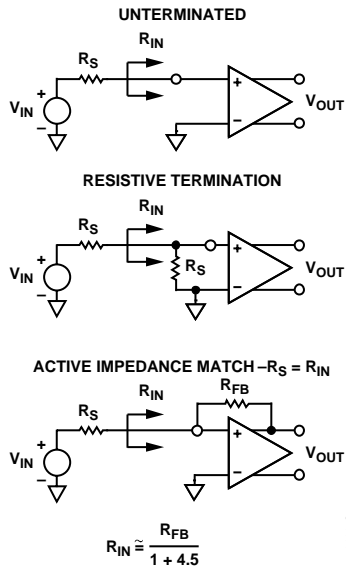
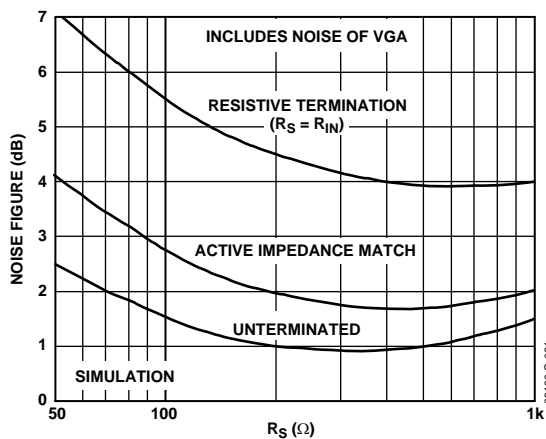
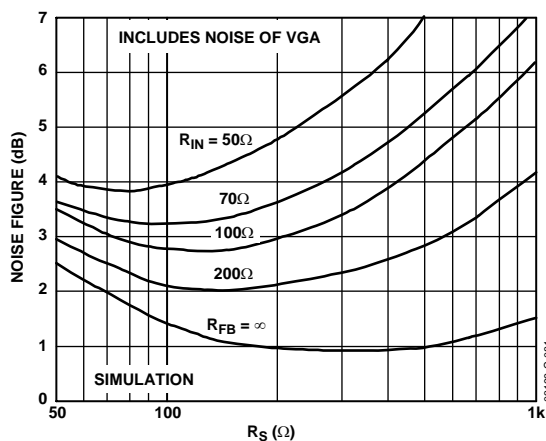

Figure 63. Input Configurations
Figure 64. Noise Figure vs. R_S for Resistive, Active Matched, and Unterminted Inputs
Figure 65. Noise Figure vs. R_S for Various Fixed Values of R_{IN} , Actively Matched
The input-referred voltage noise sets an important limit on system performance. The short-circuit input voltage noise of the LNA is 0.74 nV/ $\sqrt{\text{Hz}}$ or 0.82 nV/ $\sqrt{\text{Hz}}$ (at maximum gain), including the VGA noise. The open-circuit current noise is 2.5 pA/ $\sqrt{\text{Hz}}$. These measurements, taken without a feedback resistor, provide the basis for calculating the input noise and noise figure performance of the configurations in Figure 63. Figure 64 and Figure 65 are simulations extracted from these results, and the 4.1 dB NF measurement with the input actively matched to a 50 Ω source. Unterminated ($R_{FB} = \infty$) operation exhibits the lowest equivalent input noise and noise figure. Figure 64 shows the noise figure vs. source resistance, rising at low R_s , where the LNA voltage noise is large compared to the source noise, and again at high R_s due to current noise. The VGA's input-referred voltage noise of 2.7 nV/ $\sqrt{\text{Hz}}$ is included in all of the curves.
The primary purpose of input impedance matching is to improve the system transient response. With resistive termination, the input noise increases due to the thermal noise of the matching resistor and the increased contribution of the LNA's input voltage noise generator. With active impedance matching, however, the contributions of both are smaller than they would be for resistive termination by a factor of $1/(1 + LNA\ Gain)$. Figure 64 shows their relative noise figure (NF) performance. In this graph, the input impedance was swept with R_S to preserve the match at each point. The noise figures for a source impedance of $50\ \Omega$ are 7.1 dB, 4.1 dB, and 2.5 dB, respectively, for the resistive, active, and unterminted configurations. The noise figures for $200\ \Omega$ are 4.6 dB, 2.0 dB, and 1.0 dB, respectively.
Figure 65 is a plot of the NF vs. R_S for various values of R_{IN} , which is helpful for design purposes. The plateau in the NF for actively matched inputs mitigates source impedance variations. For comparison purposes, a preamp with a gain of 19 dB and noise spectral density of $1.0\ nV/\sqrt{Hz}$, combined with a VGA with $3.75\ nV/\sqrt{Hz}$, would yield a noise figure degradation of approximately 1.5 dB (for most input impedances), significantly worse than the AD8332 performance.